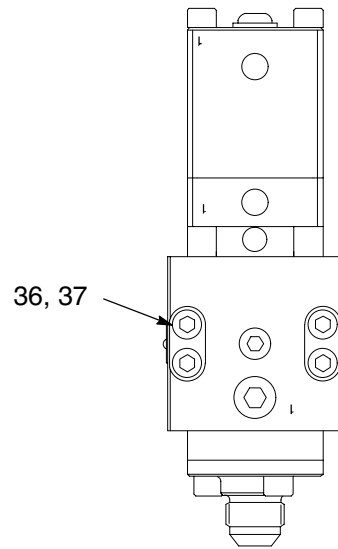

Fig. 17
3. Fasten together the manifold (26) and dispense valve (1) using the four socket head screws (36) and washers (37). See Fig. 17.